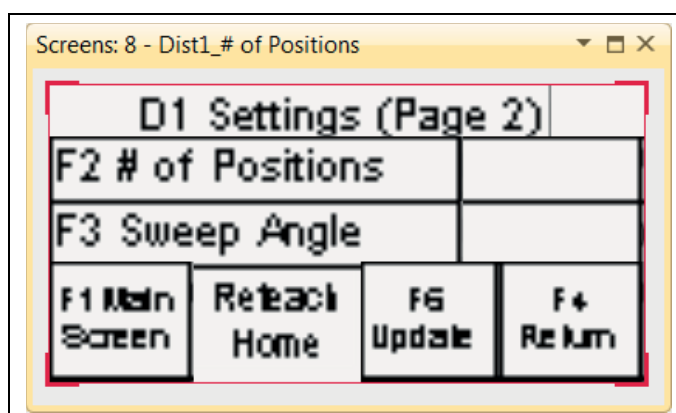

Figure 5T
6. After Pressing **F2**, the screen will appear as in Figure 5T.